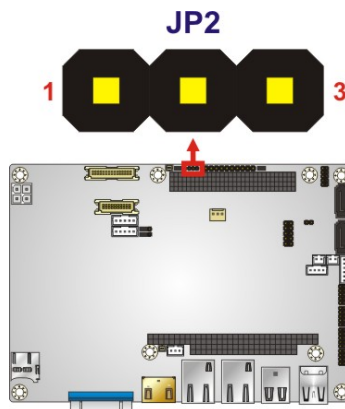

Figure 4-8: PC/104-Plus VIO Voltage Selection Jumper Location
- Jumper Location:** See Figure 4-8